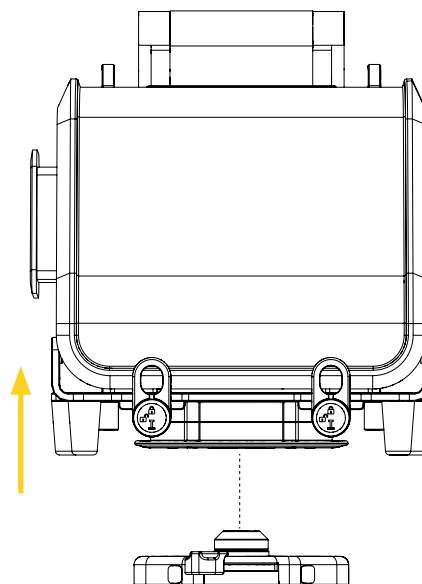

Figure 10: Removing the medical device
2. Lift the medical device vertically to remove it from the base (Figure 10), then set it aside on a flat and clean surface, or store it in its dedicated storage space. Refer to your established internal protocols if needed.